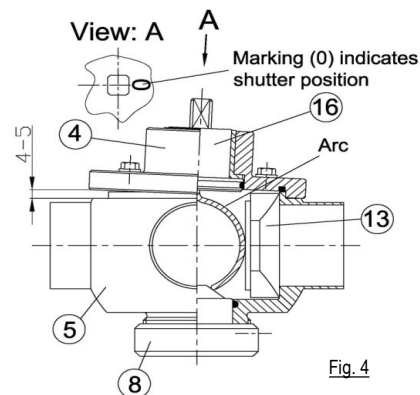

Fig. 4
- Insert bearing bushing (15) into bearing cap (4).
- Insert O-rings (11), (12) and (14).
- Fix valve bottom cap (6) on the valve body (5) and tight the fixing screws (3).
- Assemble pivoted axle with arc (16) and bearing cap (4). Pay attention to the marking (0) on the square pin of the pivoted axle (16) → indicates the shutter position (13) (see Figure 4).
- Insert shutter (13) into valve casing (5).
- Fit the pivoted axle with the arc (16) together with bearing cap (4) to the valve casing (5) as follows:
- The pivoted axle with arc (16) is designed that it exerts a defined pressure on the shutter (13) during assembly. On account of the preload characteristics, the bearing cap (4) declines approx. 4-5mm off the valve casing (5) on the opposite side of the shutter (see Figure 4)
- Fasten the handle (1) in the desired position.